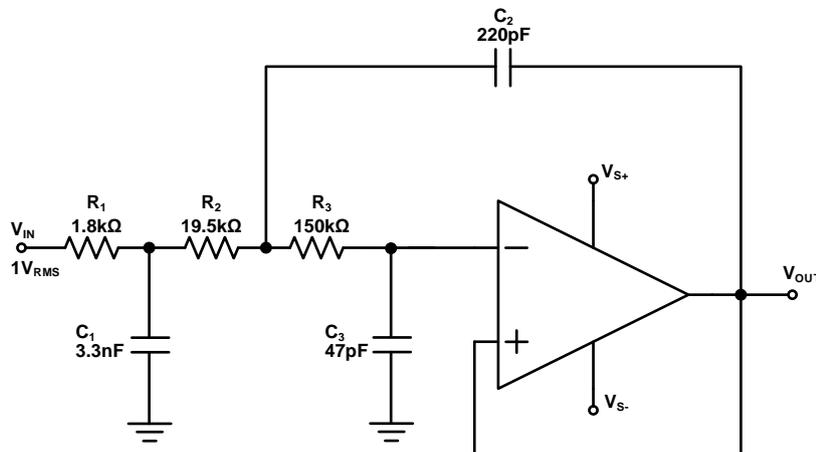

Figure 18. Configured as a Three-Pole, 20KHz, Sallen-Key Filter
3. using a non-inverting filter topology, such as the Sallen-Key (shown in Figure 18).